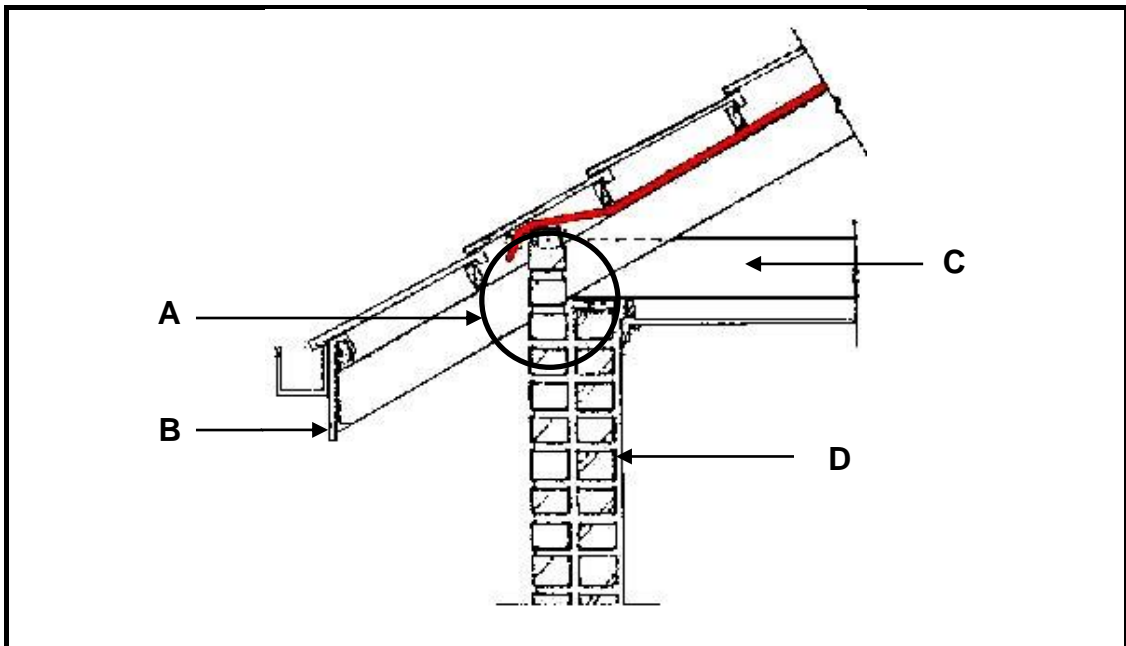

FIGURE 5.6
5.6 Answer the questions with regard to the construction in FIGURE 5.6.